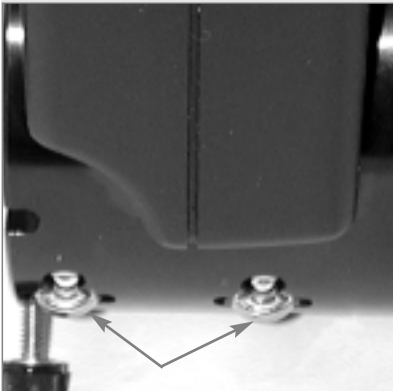

Fig. 30: Microfocuser ball bearings.
- h. The microfocuser is carefully adjusted at the factory. If it becomes necessary to adjust the microfocuser ball bearings (see **Fig. 30**), it must be performed by factory trained technicians. If the microfocuser is improperly adjusted, performance will degrade and damage will result. Damage due to improper adjustments not authorized by the factory will not be covered under warranty.